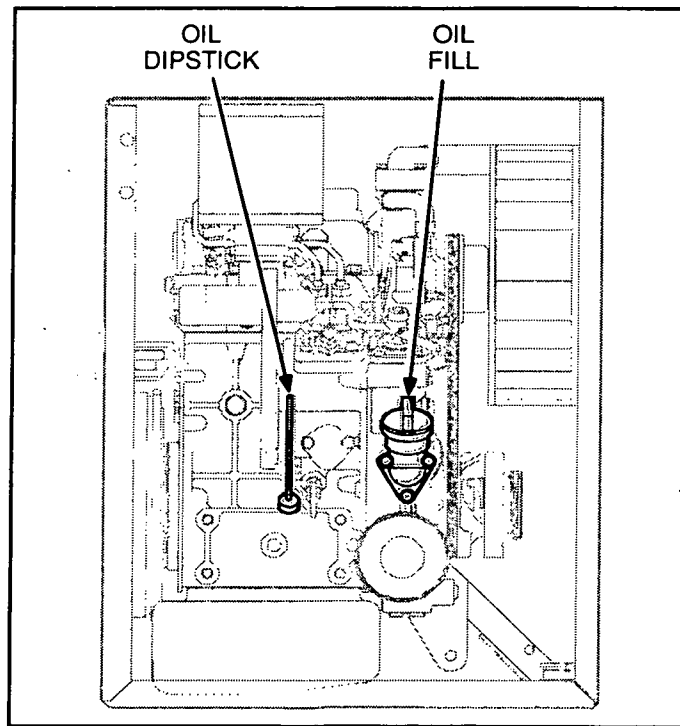

FIGURE 4. OIL CHECK AND FILL
1. Remove the dipstick and wipe it with a clean rag (Figure 4).